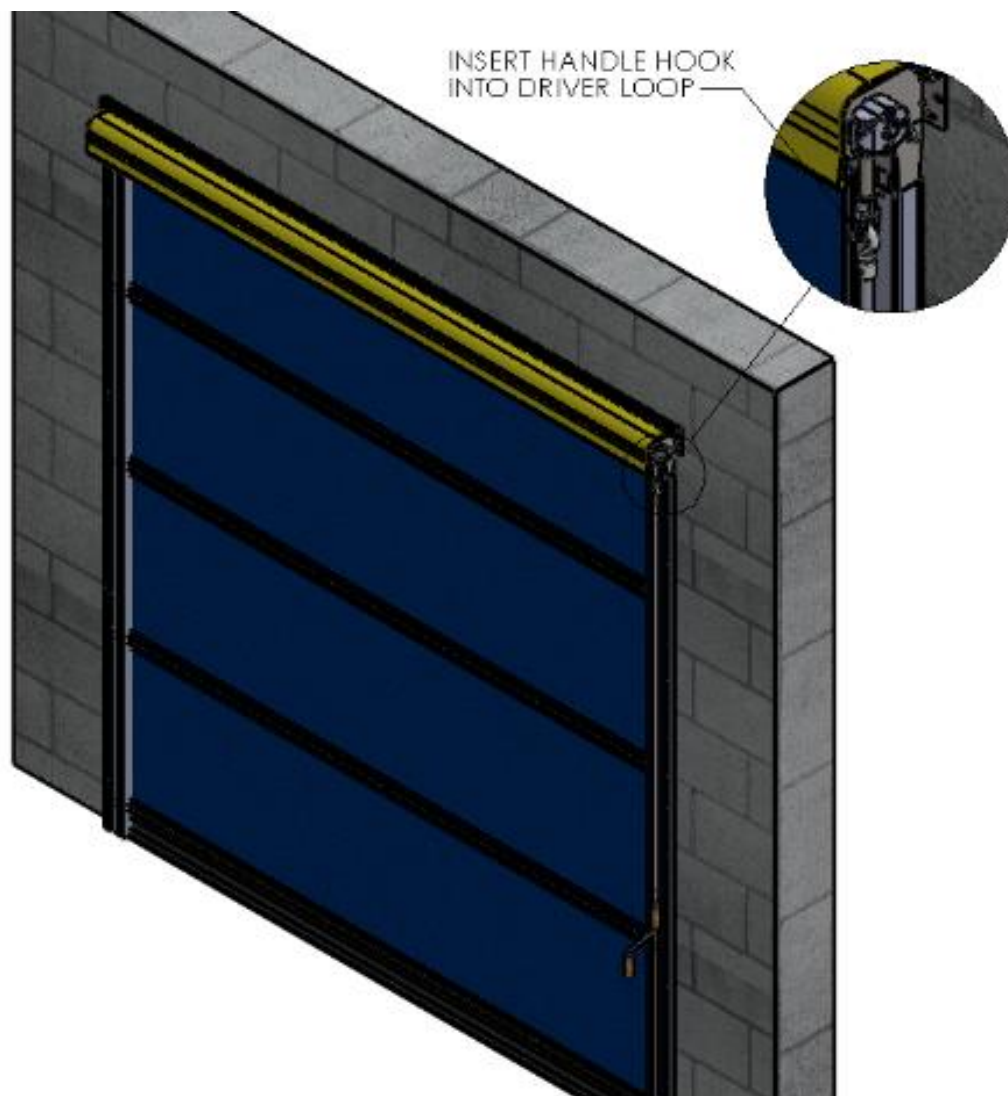

Figure 8 INSTALL CRANK HANDLE
4. Figure 8 INSTALL CRANK HANDLE)